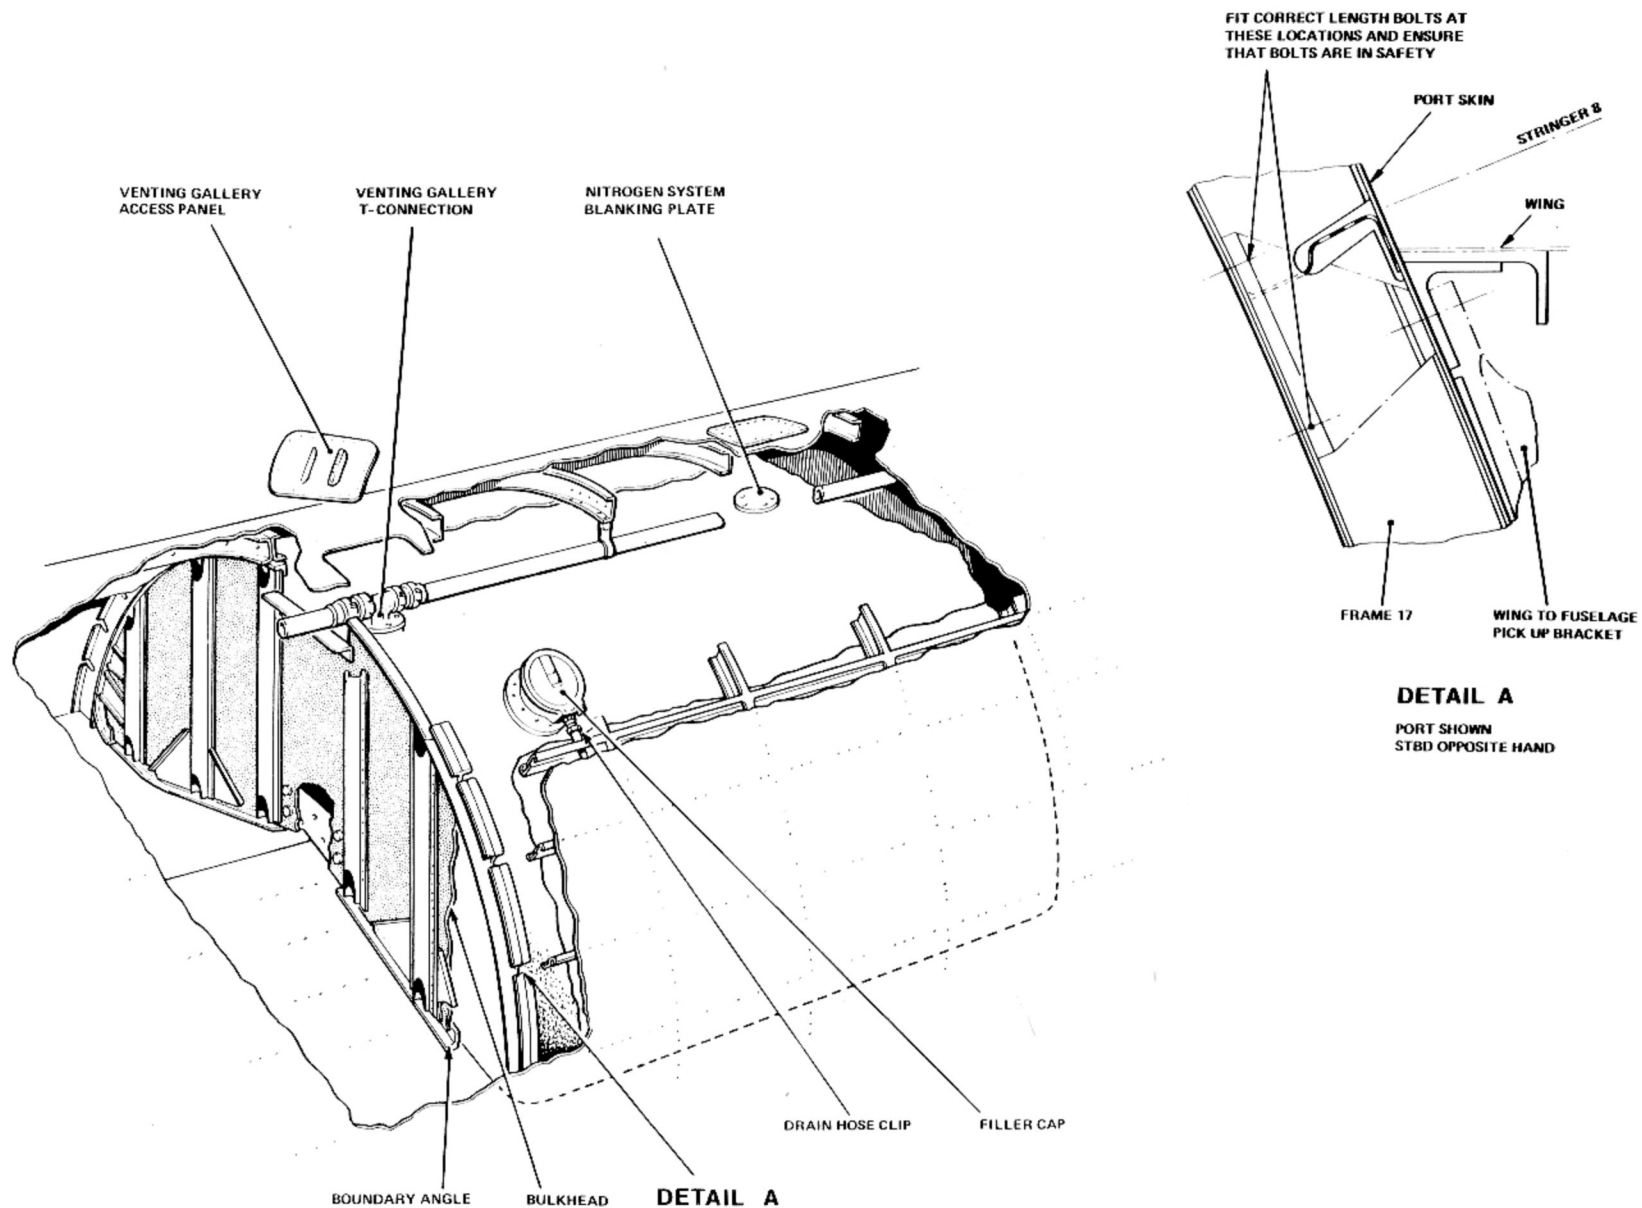

FIG. 8. No. 2 FUEL TANK REMOVAL
KEY TO FIG. 8 (No. 2 FUEL TANK REMOVAL)
4. Fit the correct length bolts at frame 17 bulkhead (*fig.8 detail A*). ▶